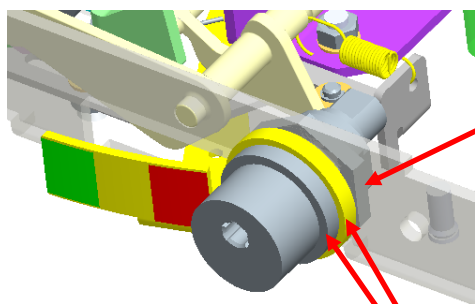

Figure 4
- Insert the lock body in to the cut-out in metal base plate along with the both spacers (Fig. 4). Assemble M22 nut on to lock body from inside of the cassette.